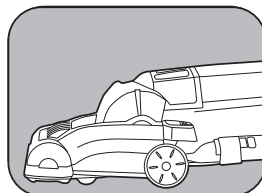

Fig. 4
3. Cleaning position – for normal cleaning (Fig. 3) and for cleaning under furniture (Fig. 4).